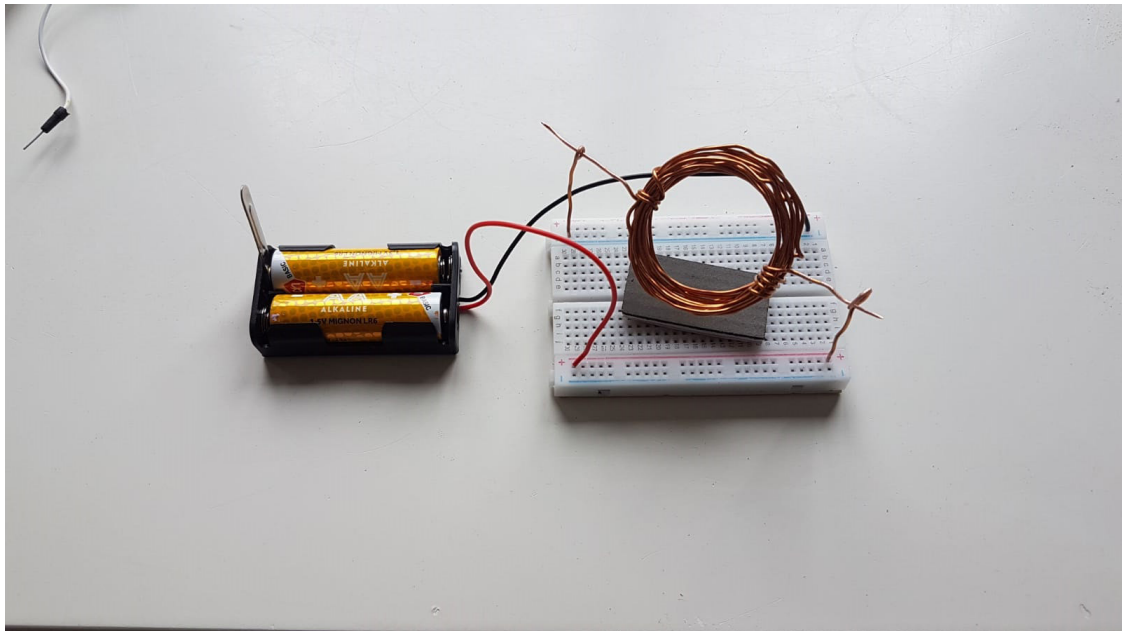

Figure 2.1. Electric motor
1. The students will make the set-up as can be seen in figure 2.1.